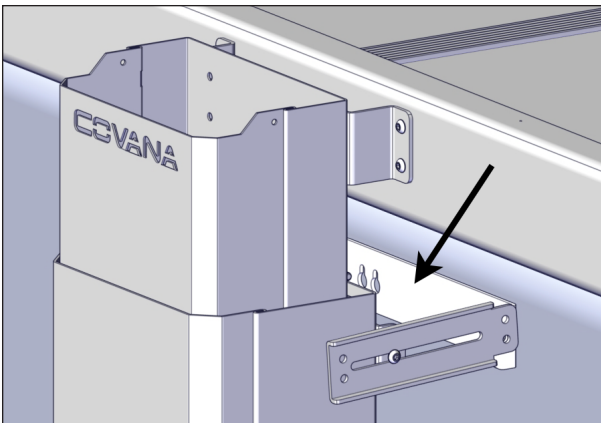

FIGURE 65: TOP TUB MOUNT BRACKET ALIGNMENT
5. With the sleeve and its arms, align the top and the bottom tub mount brackets, see Figure 65. Make sure the brackets will be fixed on a solid spa frame and no soft material between the brackets and the spa frame.